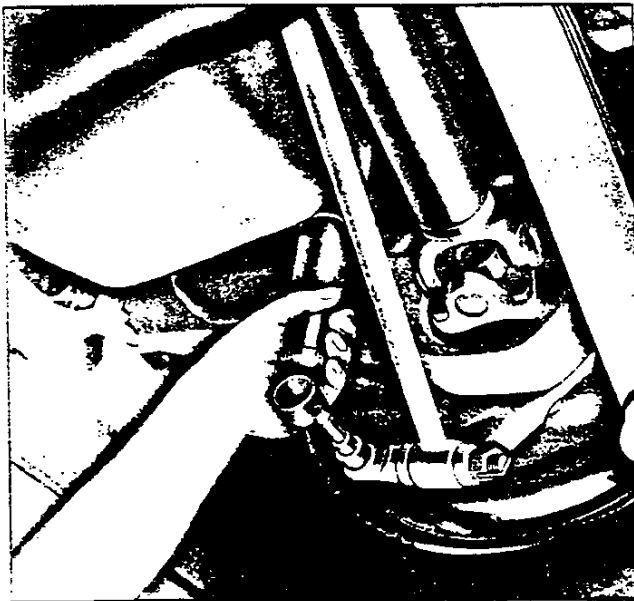

Fig. 11—Removing Shock Absorber
3. Slide shock upper eye out of frame bracket and pull lower eye and rubber grommets off strut rod mounting shaft (fig. 11).